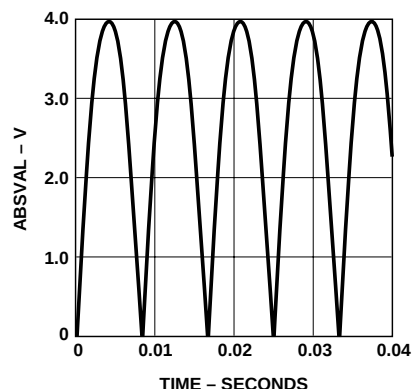

Figure 24. ABSVAL with 1 phase.
4.6: Why is gain defined as $V_{\text{REF}}/504$ mV, not $V_{\text{REF}}/512$ mV as expected, based on Figure 24?	Ideally gain would be $V_{\text{REF}}/512$ mV, however, due to internal settling characteristics, the average effective value of the internal 256 mV reference is 252 mV.